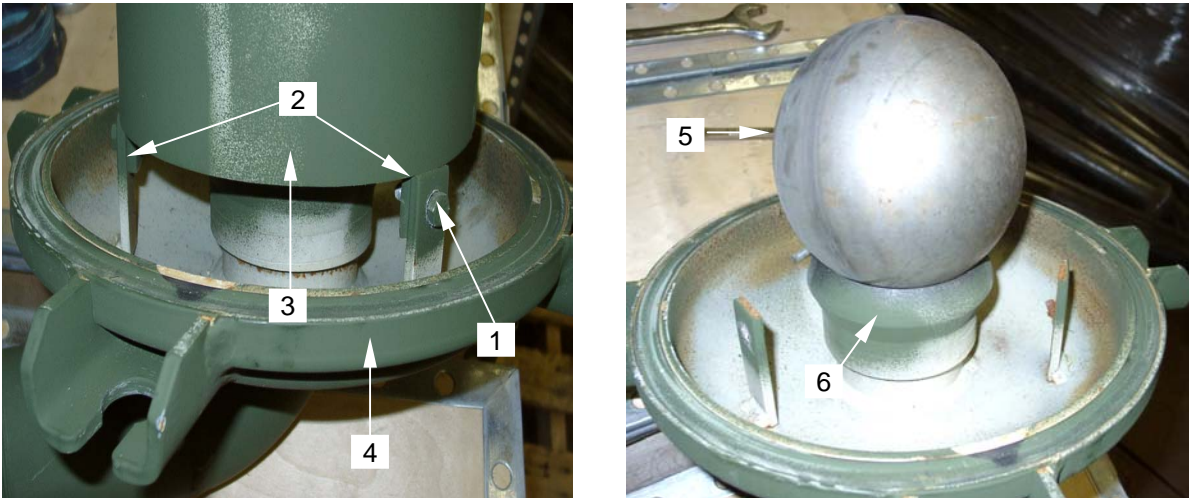

Figure 7. Removing Primary Shutoff Mechanism
- b. Remove hex bolts, hex nuts and lock washers (**figure 7, item 1**) from the three cage lid mounting brackets (**figure 7, item 2**).
- c. Remove basket (**figure 7, item 3**) from portal lid (**figure 7, item 4**).
- d. Remove float ball (**figure 7, item 5**) from shutoff seat (**figure 7, item 6**).